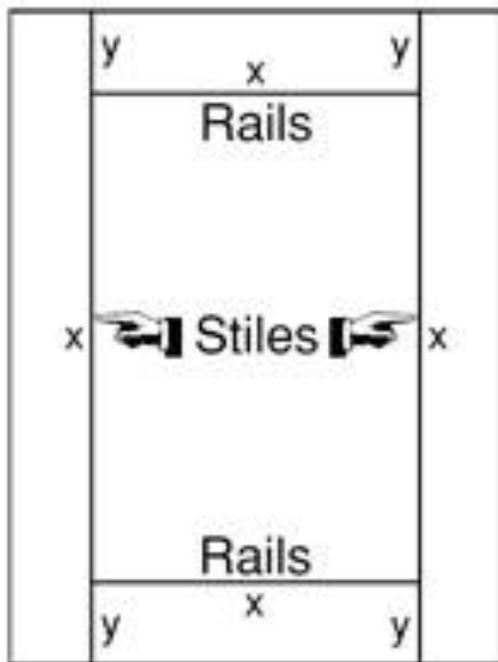
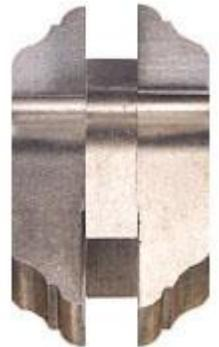
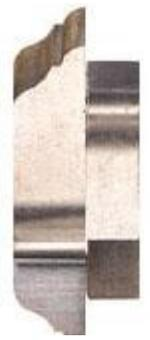

Figure 1
Figure 3
Figure 5
The three largest cutters in the set (A,B,C) are called sticking cutters and are designed to cut the (male) interior edges (x) on both the stiles and the rails (See Figure 1).
The three smallest cutters in the set (E,F,G) are called coping cutters and are designed to cut the (female) ends (y) on the rails of your door (See Figure 1).
Start with the three largest of the six cutters (A,B,C) and set them in front of you in the configuration shown in Figure 2. This set-up will be used to cut the full length of the inside edges of both the stiles and rails, as indicated by "X" in Figure 1.
Now, take the three smallest of the six cutters (E,F,G) and set them in front of you in the configuration shown in Figure 3. This set-up will be used to cut the mirror-image profile in the ends of the rails, indicated by "Y" in Figure 1.
When set-up properly, the sticking (male) cut made in the inside edges of all stiles and rails (X) by the cutter configuration shown in Figure 3 will stick nicely into the coping (female) cut made in the ends of the rails (Y) by the cutter configuration shown in Figure 4.
Start with two of the largest of the six cutters (A,B) and set them in front of you in a configuration similar to that shown in Figure 4. This set-up will be used to cut the full length of the inside edges of both the stiles and rails, as indicated by "X" in Figure 1.
Now, take two of the smallest cutters (D,E) and set them in front of you in a configuration similar to that shown in Figure 4. This set-up will be used to cut the mirror-image profile in the ends of the rails, indicated by "Y" in Figure 1
Always mount the cutters so they rotate in a clockwise direction (when viewed from the top), with the edge bevels trailing the cutting edges (See Figure 5). Always slip the Arbor through the cutters from the RIGHT side, based on Figures 3 & 4.